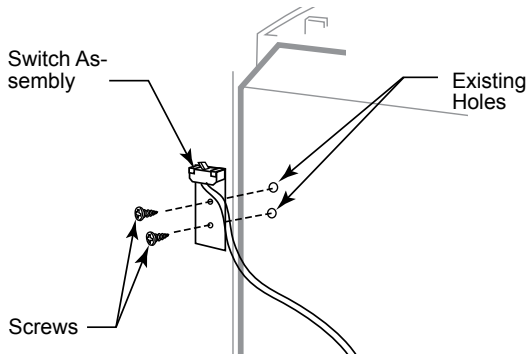

Fig. 46 Attach switch assembly to rear shroud.
1. Attach switch assembly to left rear side of stove shroud (when facing shroud) using two screws and existing holes in shroud. (Figure 46)